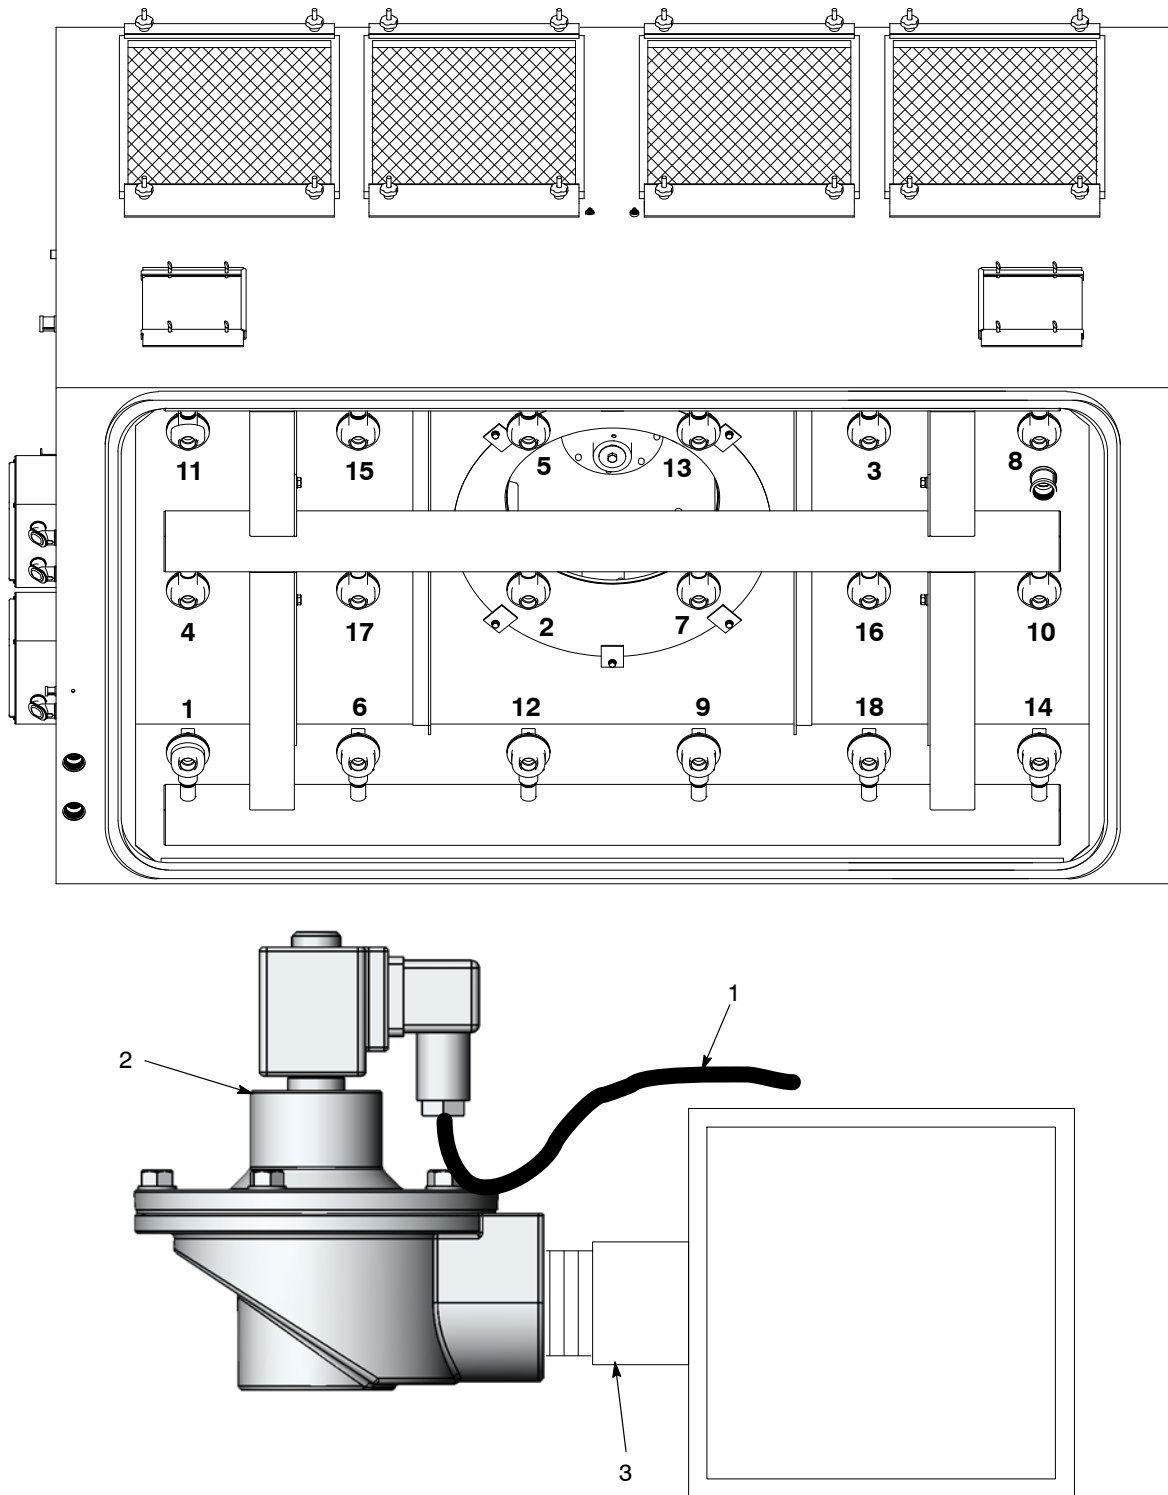

Figure 6-5 Pulse Valve Replacement and Pulse Sequence
See Figure 6-5 for the pulse valve connections. The sequence number is the number of the timer board terminal that the valve is connected to. To avoid connecting the valve solenoids to the wrong cables, remove and replace one valve at a time. Incorrect connections will cause the valves to open in the wrong sequence.
2. See Figure 6-5. Disconnect the cable (1) from the pulse valve solenoid.
3. Unscrew the pulse valve (2) from the manifold nipple (3).